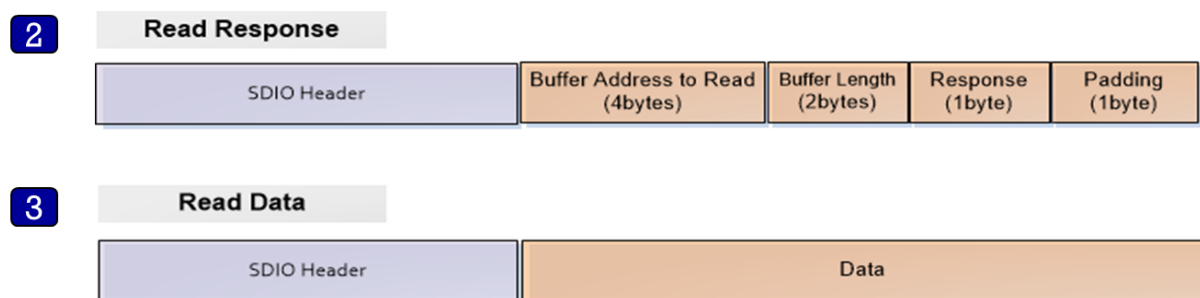

Figure 16. Structure
2. The Host reads the response message from Response Command address (0x50080258, blue rectangle in Figure 16) and parses it using struct `_st_host_response` (see Section 1.2.6).
3. The Host reads data from address (BUFF_ADDR), which is received from Slave in the response message (green rectangle in Figure 16).